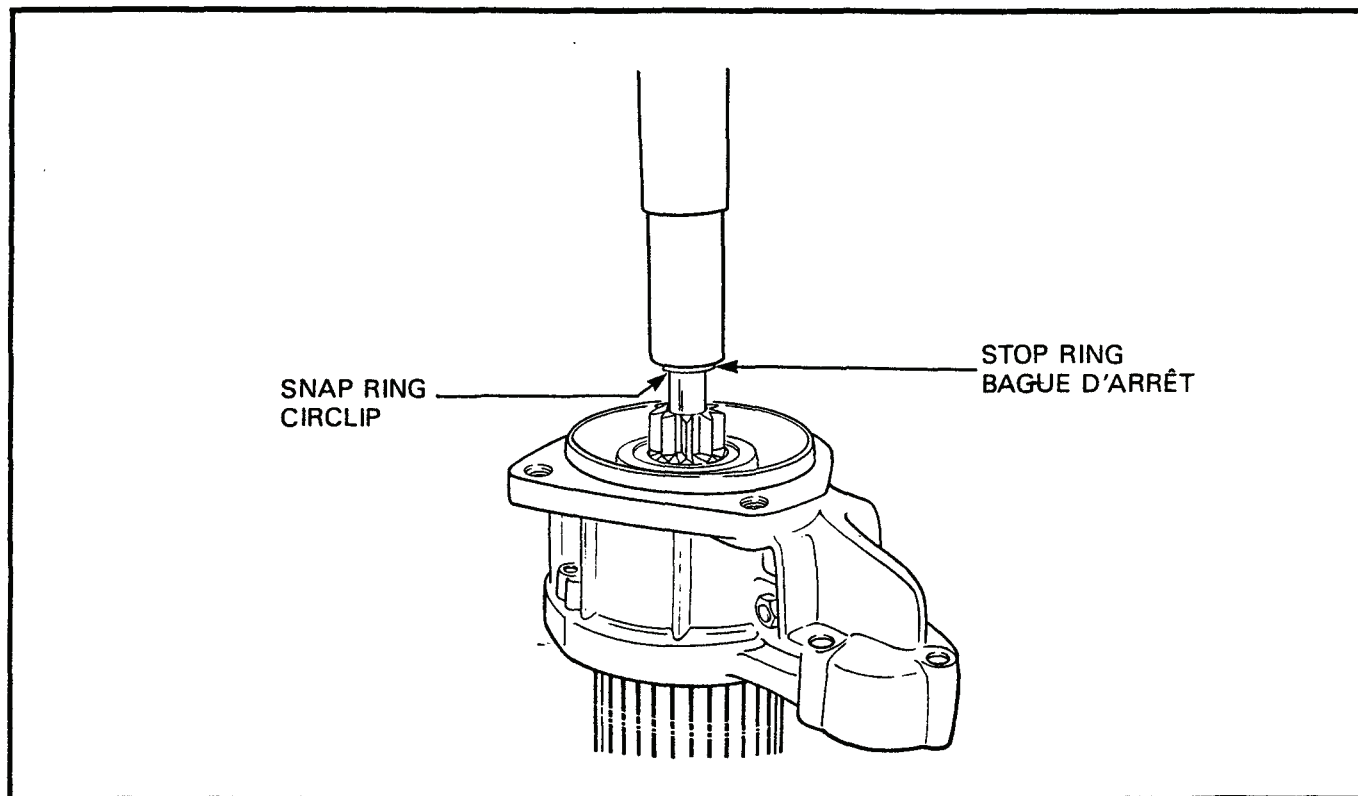

Figure 2-5-2 Removal of Starter Stop Ring from Starter Snap Ring
- n. Using a suitable tool, press the stop ring from the snap ring, see Figure 2-5-2, and remove both rings.
- n. Au moyen d'un outil approprié, expulser la bague d'arrêt du circlip, voir figure 2-5-2, et enlever la bague et le circlip.